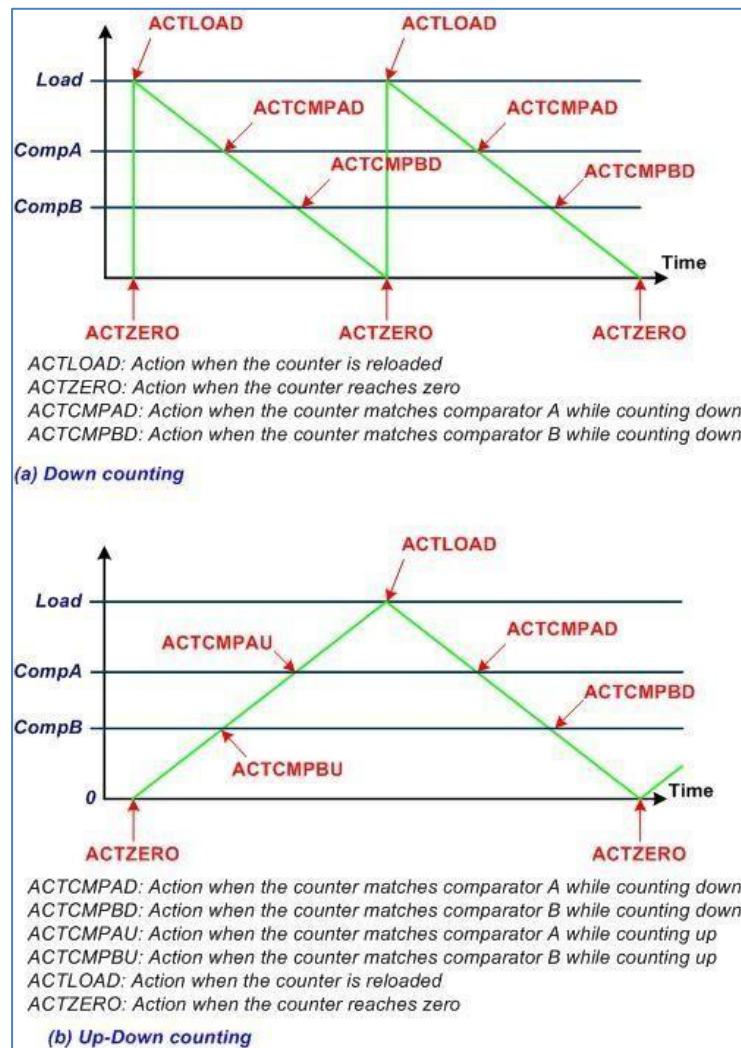

Figure 10-2 PWM events
2. The second step is to specify the crystal frequency in the four XTAL bits using the code in Figure 10.2.